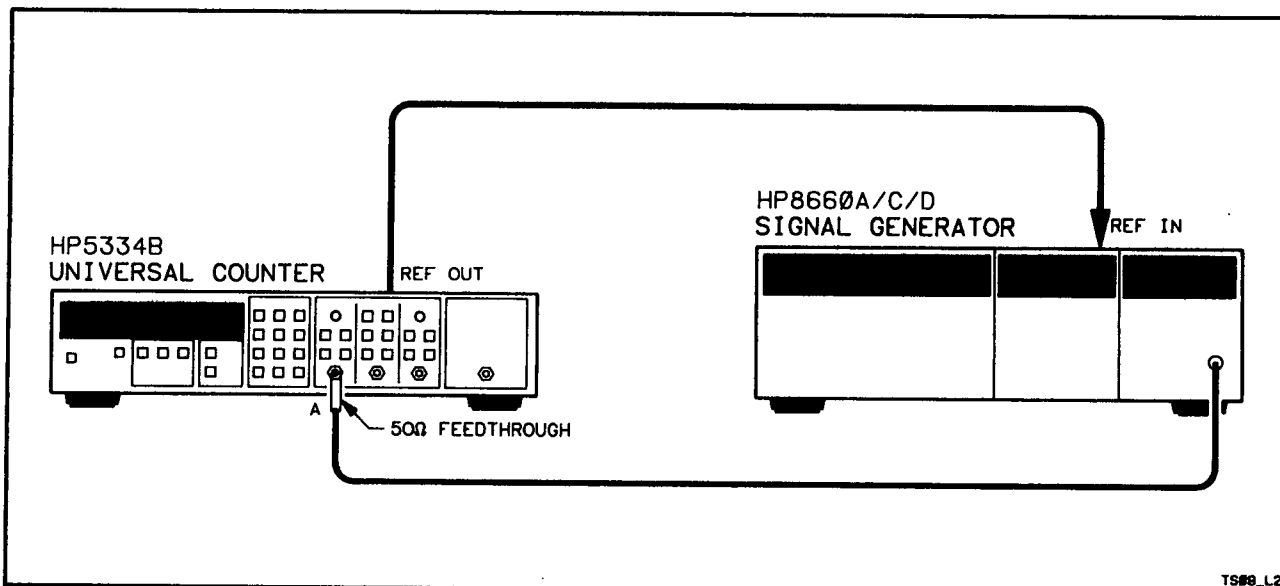

Figure 4-9. Pulse Width A Test Setup
3. Connect the signal generator output to the HP 5334B Input A using a 50 Ω feedthrough connector as shown in *Figure 4-9*.